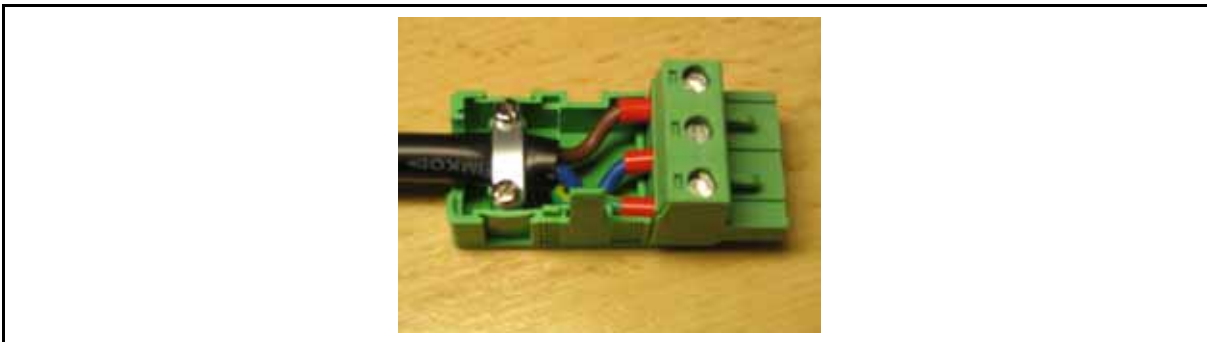

FIGURE 11: POWER SUPPLY WIRING
- The power supply earth cable must be screwed onto the connector (3 points) (as shown on Figure 11).